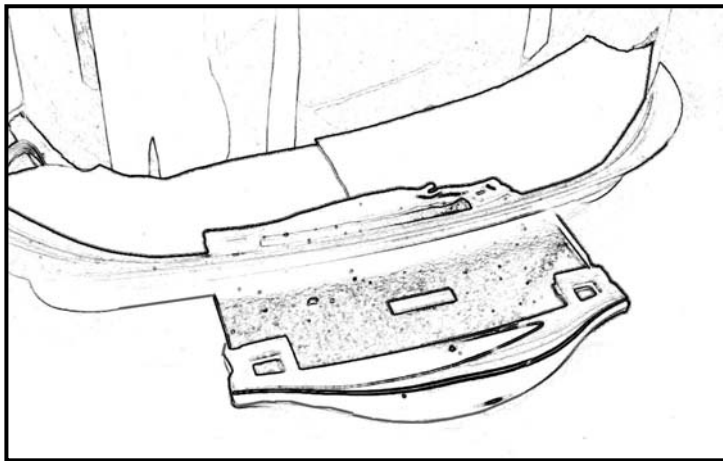

Fig. 2
2. Gently grip the Removable Crumb Tray (11) and slide out from under the toaster. (Fig. 2)
3. Dispose of the crumbs, wipe out the remaining crumb from the Removable Crumb Tray (11) with a mild dishwashing detergent. Dry thoroughly before replacing the removable Crumb Tray (11) back into the toaster.
4. Gently slide the Removable Crumb Tray (11) back into its place.